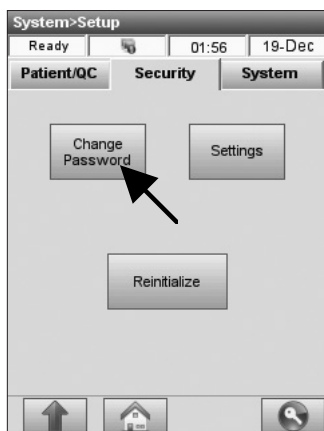

Fig. 3-66 Change Password
2. On the **<Security>** tab, press **<Change Password>** (Fig. 3-66).